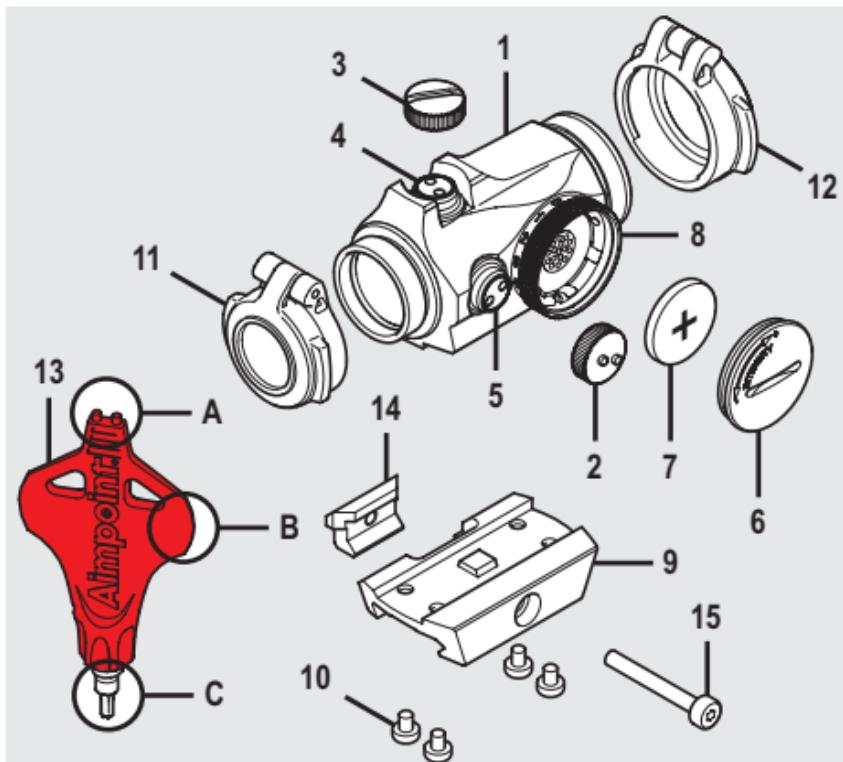

Fig. 1
- a Remove Battery cap (6) using the Tool (13B).
- b Insert Battery (7) with the positive end (+) toward Battery cap (6) as can be seen in Fig 1.